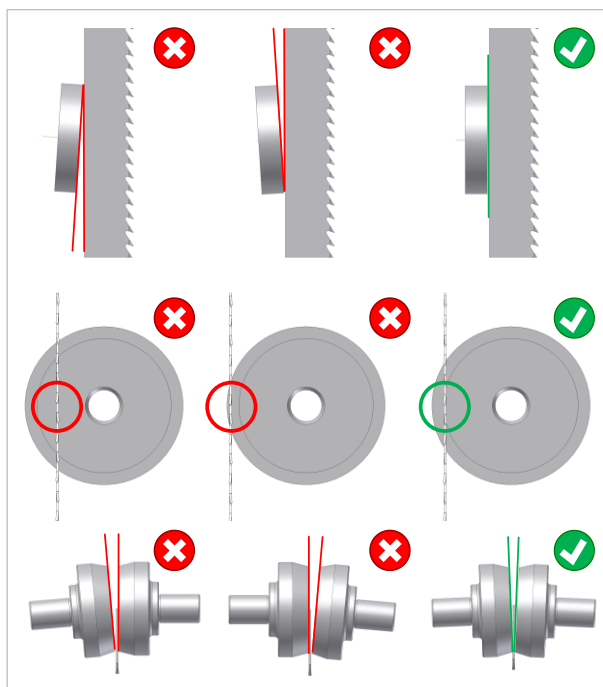

Figure 28: Basic adjustment of the back and side rollers
- Adjust side rollers so that they only lightly touch the saw blade (see ⇒ Figure 28). Please take care that the saw blade is not pushed to the side!
- The ⇒ Figure 28 shows on the far right the optimal setting of the back and side rollers. On the left and in the middle, it is shown which settings are wrong and must be avoided.
- The back roller must be parallel to the back of the saw blade (vertical), see ⇒ Figure 28 top right.
- The saw blade must run exactly in front of the inner edge of the back rollers (⇒ Figure 28, centre right).
- The opening angles between the side rollers and the saw blade must be the same on both sides (⇒ Figure 28 bottom right).
Incorrect basic adjustment of the guide	→ Check basic adjustment (⇒ Figure 28) and readjust if necessary (see section ⇒ 11.7.2)
Saw blade runs too far inside on the back roller	→ Check basic adjustment (⇒ Figure 28) and readjust if necessary (see section ⇒ 11.7.2)